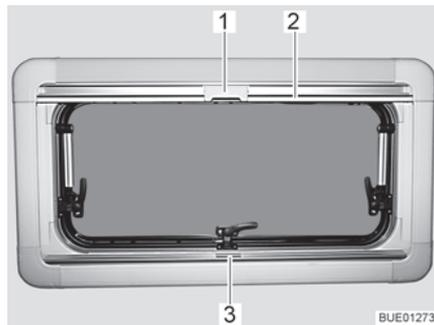

Fig. 100 Hinged window
- Grip the Roman shade in the centre of the holding bar (Fig. 100,3), pull it from the bottom to the top and then release it at the desired height. The Roman shade will stay at this height.
- Pull the insect screen down using the holding bar (Fig. 100,2), until it touches the holding bar of the Roman shade (Fig. 100,3).
- Clip the catch (Fig. 100,1) on the insect screen into the handle of the Roman shade.
- Push the catch (Fig. 100,1) on the insect screen inwards.
- Move the insect screen back slowly on the holding bar (Fig. 100,2).